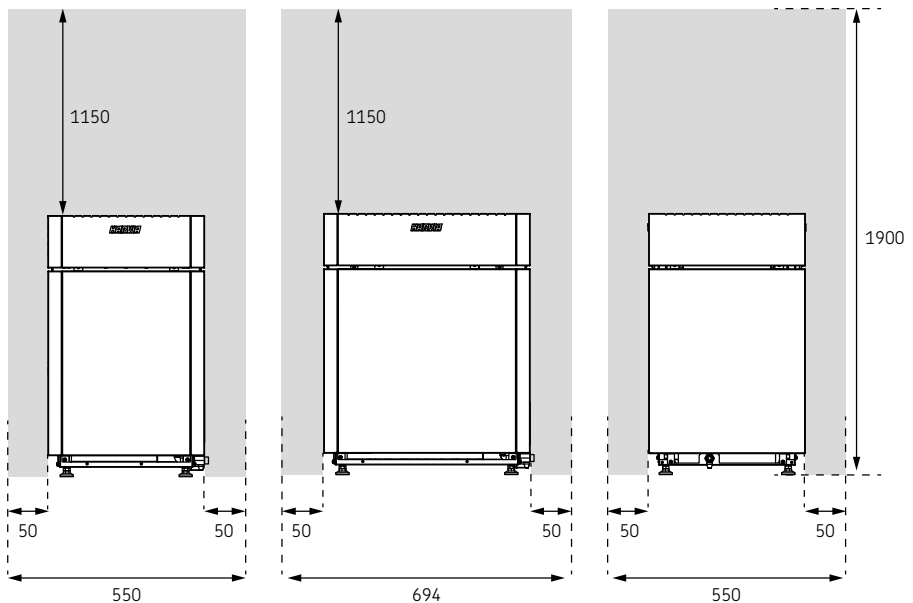

Figure 1. Safety distances
- Minimum protective distances to combustible material are shown in figure (Figure 1. Safety distances).
- If a guardrail is installed around the sauna heater, the safety distances given in figure (Figure 1. Safety distances) or in the installation instructions for the guardrail must be observed.